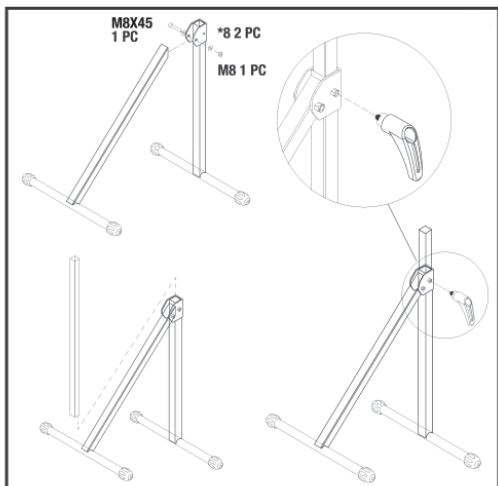

Fig. 2
2. Connect the folding legs (Fig.2).